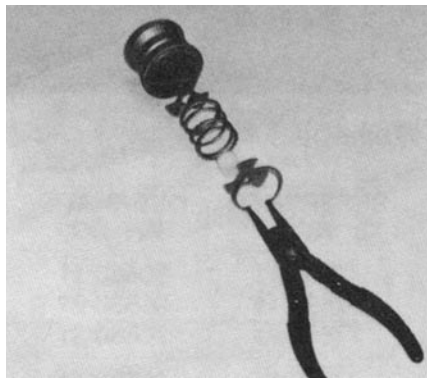

Figure 4-9 Removing shuttle assembly components.
- 4.7.3 Using retainer ring pliers, remove the snap ring (4g) to release the (4), spring (4E), and guide sleeve (4) from the shuttle (4A). See Figure 4.9.